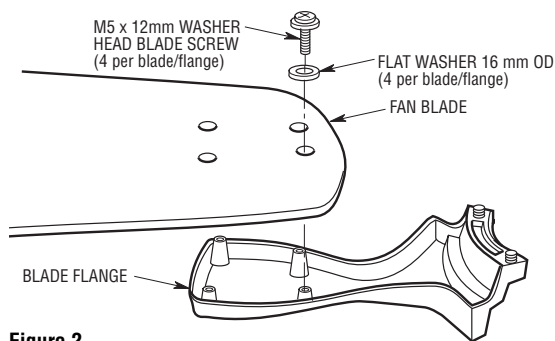

Figure 2
2. Mount blade flanges (supplied with fan) to fan blades (sold separately) using four M5 x 12mm washer head blade screws and four 16mm flat washers (supplied with fan) (Figure 2).